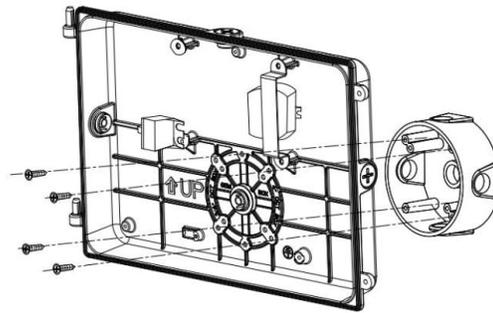

Fig6
**Step 4 Method A:** Fix the rear housing on the wall by three screws (provided by others) (Fig6).